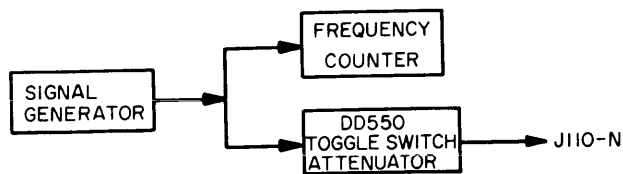

Figure 5-4. Step Generator Z110, Test Setup
(1) Remove comb filters Z102 and Z103 from Oscillator. Set frequency selector switches to 03.000 MHz.
(2) Connect oscilloscope between collector of transistor Q1 and ground. Adjust potentiometer R1 for maximum level.
(3) Connect oscilloscope at junction of diode CR1 and transformer T1. Adjust transformer T1 for maximum level.
(4) Connect oscilloscope between collector of transistor Q1 and ground. Adjust potentiometer R1 for a level of 2 volts peak-to-peak.
(5) Connect oscilloscope between junction of diodes CR1/CR2 and ground. Adjust potentiometer R7 for minimum level.
(6) Connect test equipment as shown in figure 5-4.
(7) Set signal generator frequency to 1.05 MHz and output level to 100 mv peak-to-peak.
(8) Connect oscilloscope to J110-R and adjust potentiometer R28 for a level of 0.4 volt peak-to-peak.
(9) Short Secondary transformer T3.
(10) Connect millivac model MV-28B millivoltmeter at junction of resistor R8 and capacitor C8.
(1) Remove comb filters Z102 and Z103 from Oscillator and set frequency selector switches on front panel to 28.0000 MHz.
(2) On Z113, connect oscilloscope at collector of transistor Q14. Adjust potentiometer R78 for maximum level.
(3) Connect oscilloscope at junction of transformer T11 and diode CR1. Adjust transformer T11 for maximum level.
(4) Connect oscilloscope at junction of capacitor C104 and resistor R88. Adjust variable capacitor C101 and resistor R84 alternately until minimum level is obtained.
(5) Connect oscilloscope at collector of transistor Q14. Adjust potentiometer R78 for 2 volts peak-to-peak.
(6) Connect test equipment as shown in figure 5-4. Set signal generator frequency to 1.6 MHz. Set output level to 100 mv peak-to-peak.
(7) Short secondary of transformer T13. Place Millivac Model MV-28B millivolt meter at junction of resistor R88 and capacitor C104.
(8) Adjust transformer T12 for maximum level indication on meter.
(9) Remove short and adjust transformer T13 for dip or minimum indication on meter.
(10) Repeat steps 7 through 9, using transformer T15 and Q15 collector for step 7; transformer T14 for step 8; and transformer T15 for step 9.
(11) Repeat steps 7 through 9, using transformer T17 and Q16 collector for step 7; transformer T16 for step 8; and transformer T17 for step 9.
(12) Place oscilloscope at J113-N and adjust transformer T18 for maximum level indication.
(13) Vary frequency of signal generator from 1.4 MHz to 1.8 MHz. Output level on oscilloscope